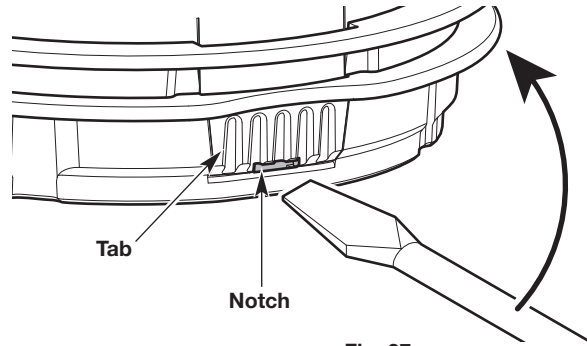

Fig. 27
- a. Insert a flat-head screwdriver into the notch on the tab (Fig. 27).
- b. Gently tilt the screwdriver up and hold it in place (Fig. 27).